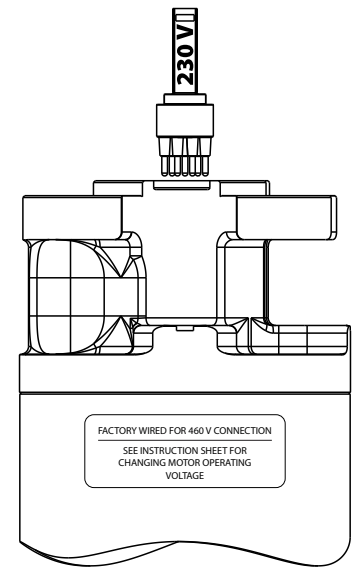

Fig. 4
- Insert the new voltage plug as shown in Fig. 4. Note that the plug voltage rating must be oriented as shown.